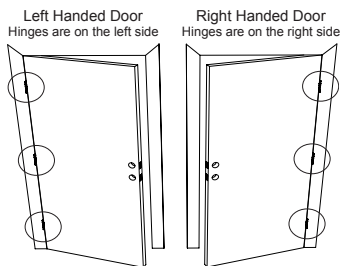

Figure 4a
- If the hinges are on the left your door is Left Handed (Figure 4a).